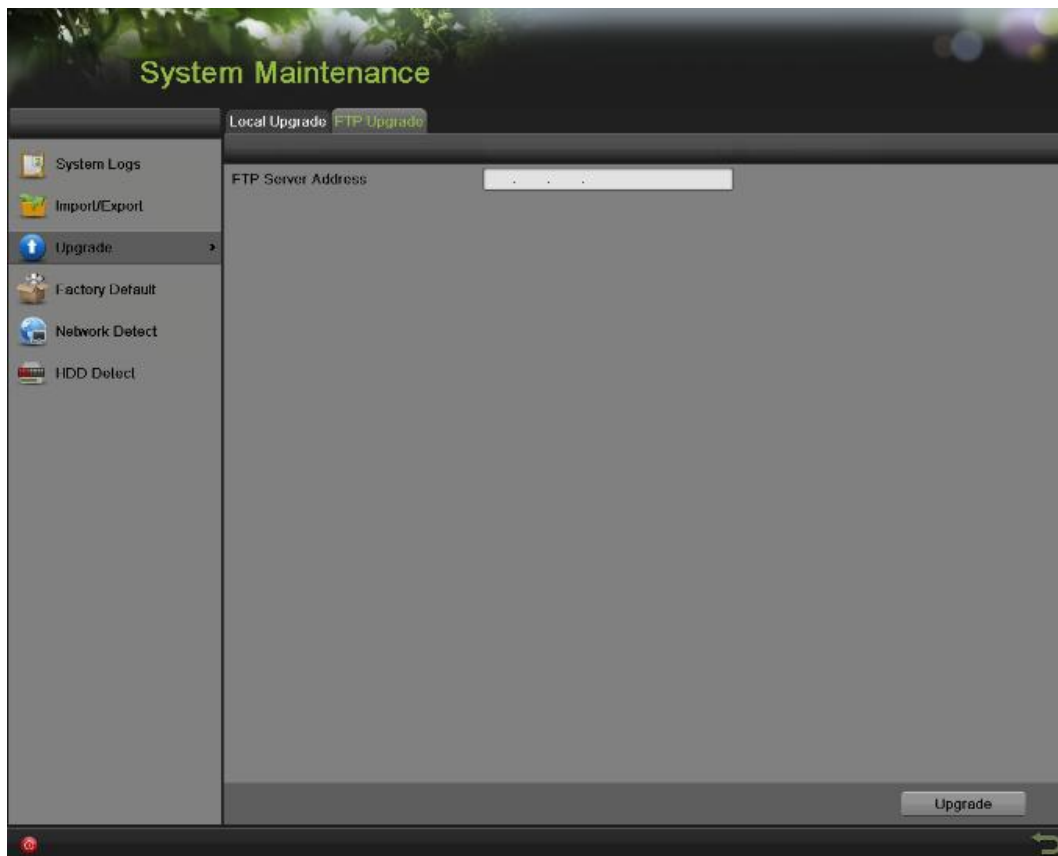

Figure 141 FTP Upgrade Menu
2. Select the FTP Upgrade tab, as shown in Figure 141.